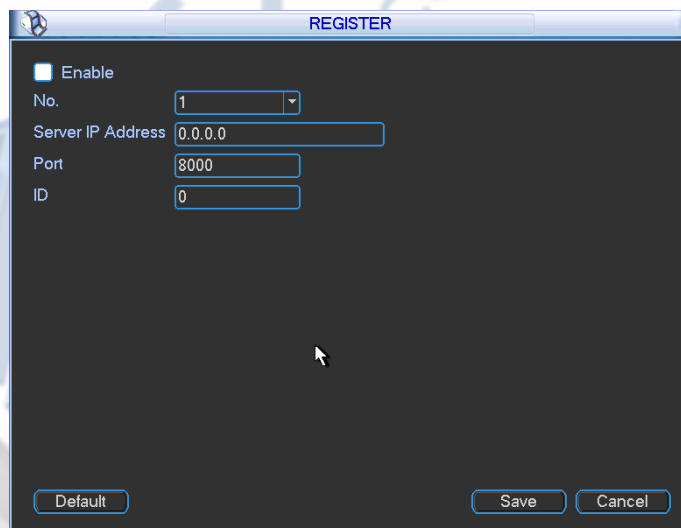

Figure 5-86
1) The setup interface is shown as in Figure 5-86.
3) Now you can add device. Do not input default port number such as the TCP port in the mapping port number. The device ID here shall be the same with the ID you input in Figure 5-86. Click Add button to complete the setup.